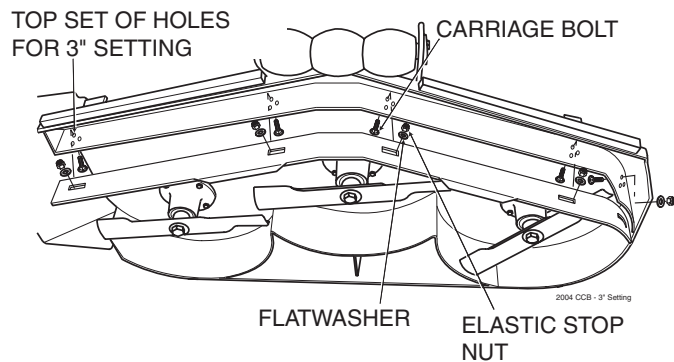

Figure 6-8. 3" Custom-Cut Baffle Position
- A. 3" Position - baffle is installed using the top set of holes on the front baffle welded inside the cutter deck. (See Figure 6.8). The Advantage cutter deck will deliver the best quality-of-cut in very tall, wiry, tough to cut grass.
3. Move the Custom-Cut Baffle to desired position. (See Figures 6.8 through 6.10 for position).
4. Reinstall the mounting hardware as shown. (See Figures 6.8 though 6.10). Torque hardware to 39 ft/lbs.